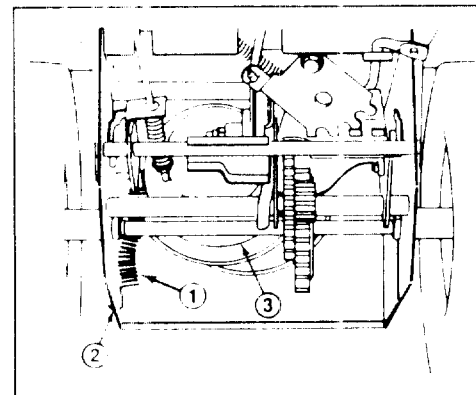

Figure 26
7. Disconnect spring from notch in bottom edge of side plate (Fig. 26).
11. Hook spring into notch in bottom edge of side plate (Fig. 26).